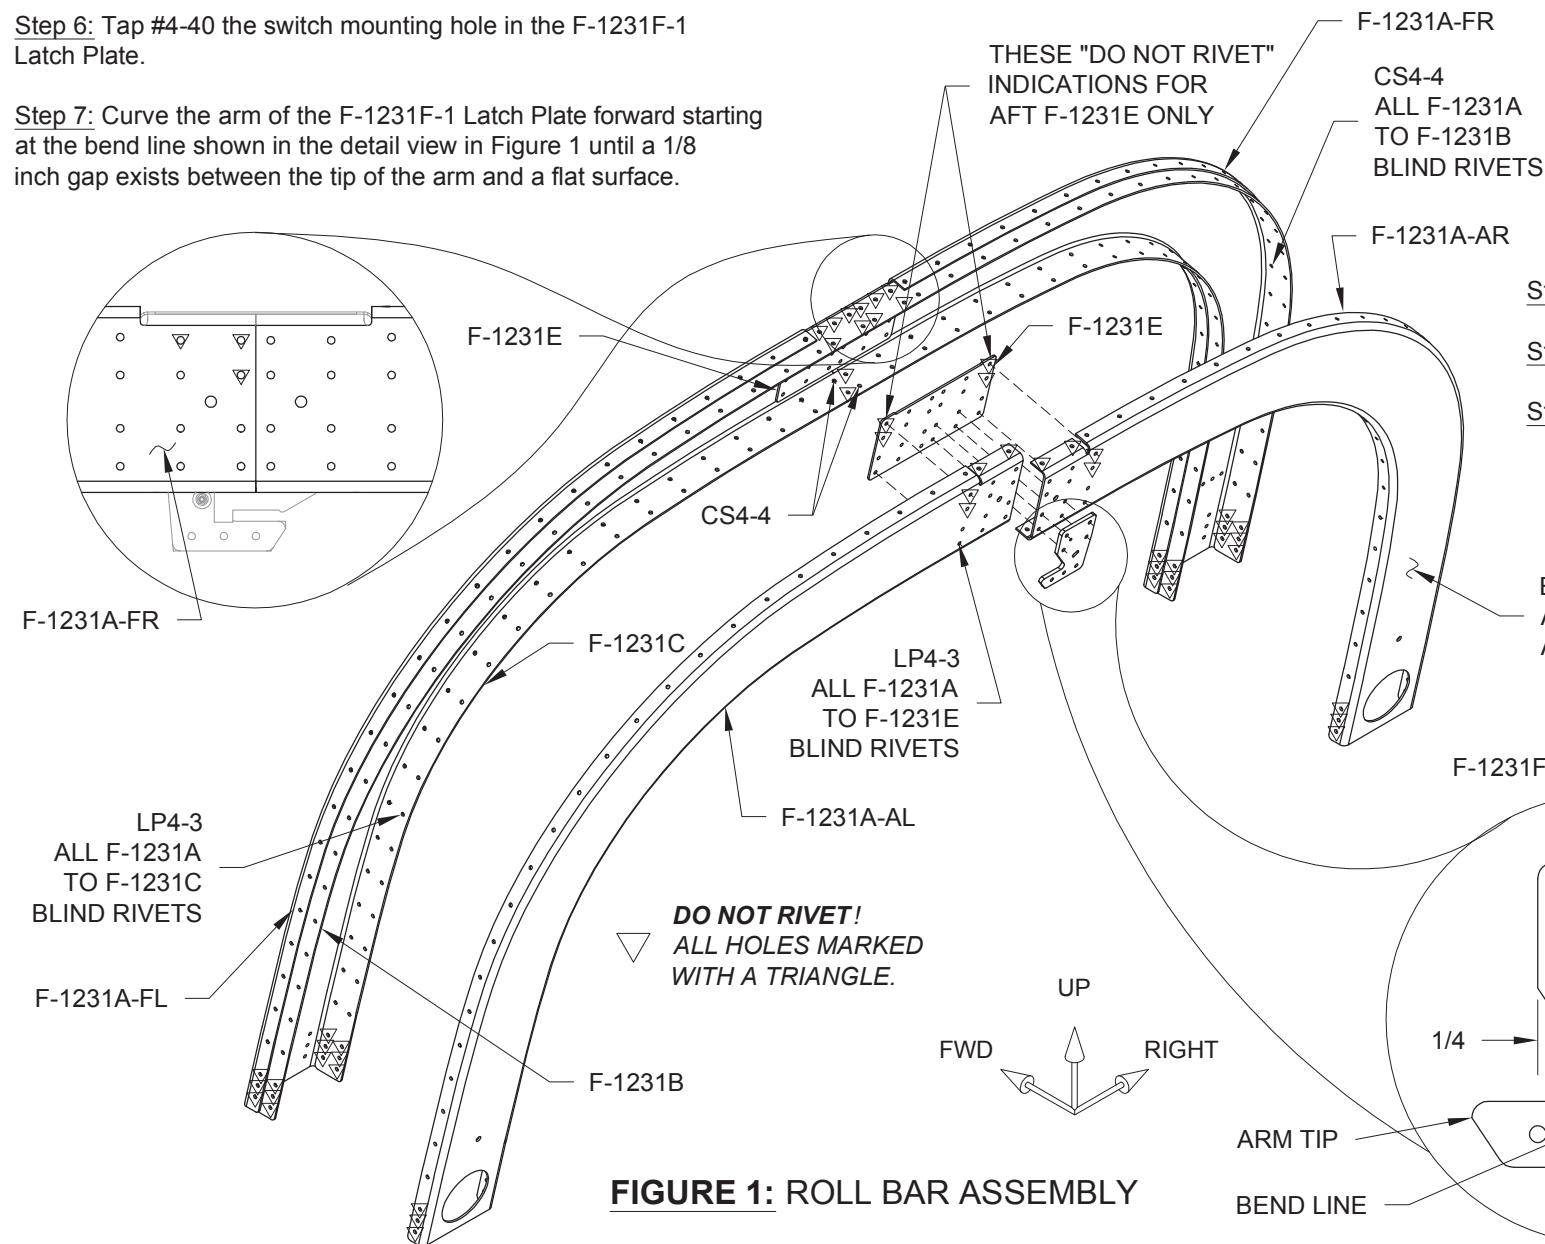

FIGURE 1: ROLL BAR ASSEMBLY
Step 1: Study Figure 1 to determine the forward edge, top and bottom of the F-1231B & C Roll Bar Straps. Run the roll bar straps back and forth over the edge of a table to add a curvature to the parts. Be careful not to let the parts kink across the rivet holes. The curve does not have to be the final installed shape but enough to allow easy assembly of the roll bar. Deburr the edges of all parts used to create the Roll Bar Assembly. Cleco all of the parts of the Roll Bar Assembly together as shown in Figure 1.
Step 3: Disassemble the roll bar parts, then machine countersink the **outer flanges** of the F-1231A-FL, -FR, -AL and -AR Roll Bar Frames for the head of the rivets that will eventually lay underneath the canopy except holes common to the F-1231D Roll Bar Bases. Machine countersink the two holes on the inside lower center face of the roll bar that will get flush blind rivets. See Figure 1.
Step 4: Cleco the F-1231F-1 Latch Plate to the F-1231A-AR Roll Bar Frame and aft F-1231E Splice Plate. Match-Drill #43 a hole in the roll bar frame and splice plate using the switch mounting hole as a guide. See the detail view in Figure 1.
Step 7: Curve the arm of the F-1231F-1 Latch Plate forward starting at the bend line shown in the detail view in Figure 1 until a 1/8 inch gap exists between the tip of the arm and a flat surface.
CAUTION: Do not rivet the locations marked with a triangle in Figure 1 until later in the assembly process!
Step 8: Rivet the F-1231F-1 Latch Plate to the F-1231A-AR Roll Bar Frame and aft F-1231E Splice Plate as shown in the detail view in Figure 1.
Step 9: Rivet the F-1231A-FL, -FR, -AL & -AR Roll Bar Frames to the F-1231B & C Roll Bar Straps and F-1231E Splice Plates per the callouts in Figure 1 to create the Roll Bar Assembly.